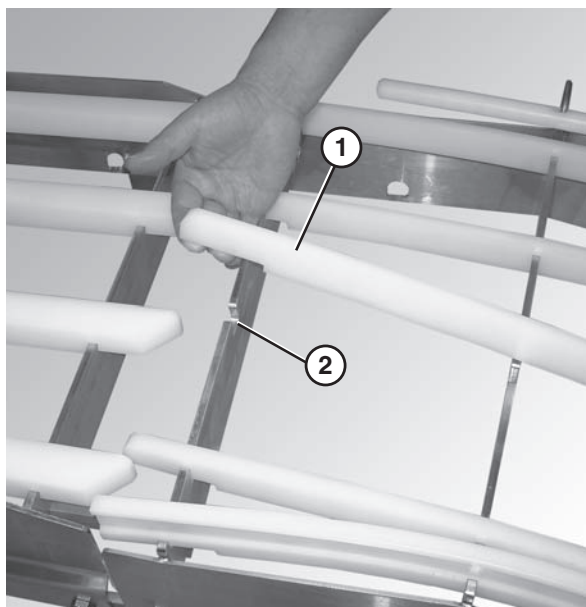

Figure 31
3. Insert the wear strips (**Figure 31, item 1**) into the appropriate slots in the frame (**Figure 31, item 2**), starting with the shortest wear strip on the inside of the curved section and working outward to the longest.